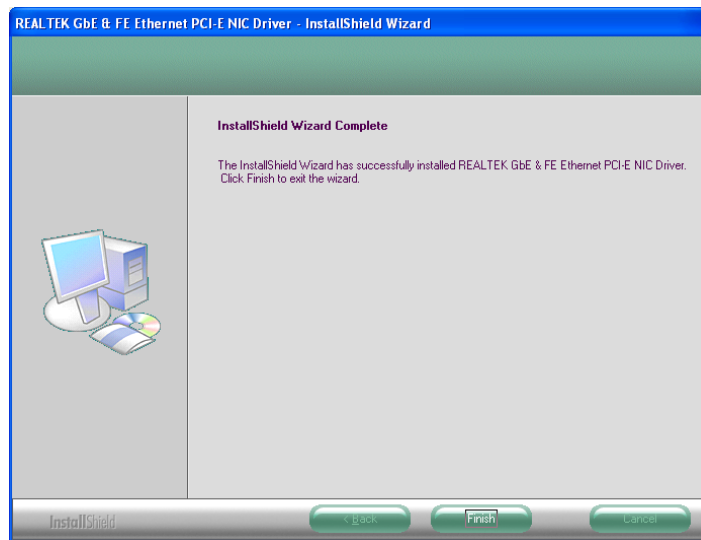

Figure 6-18: LAN Driver Installation Complete
Step 8: When the driver installation is complete, the screen in **Figure 6-18** appears.